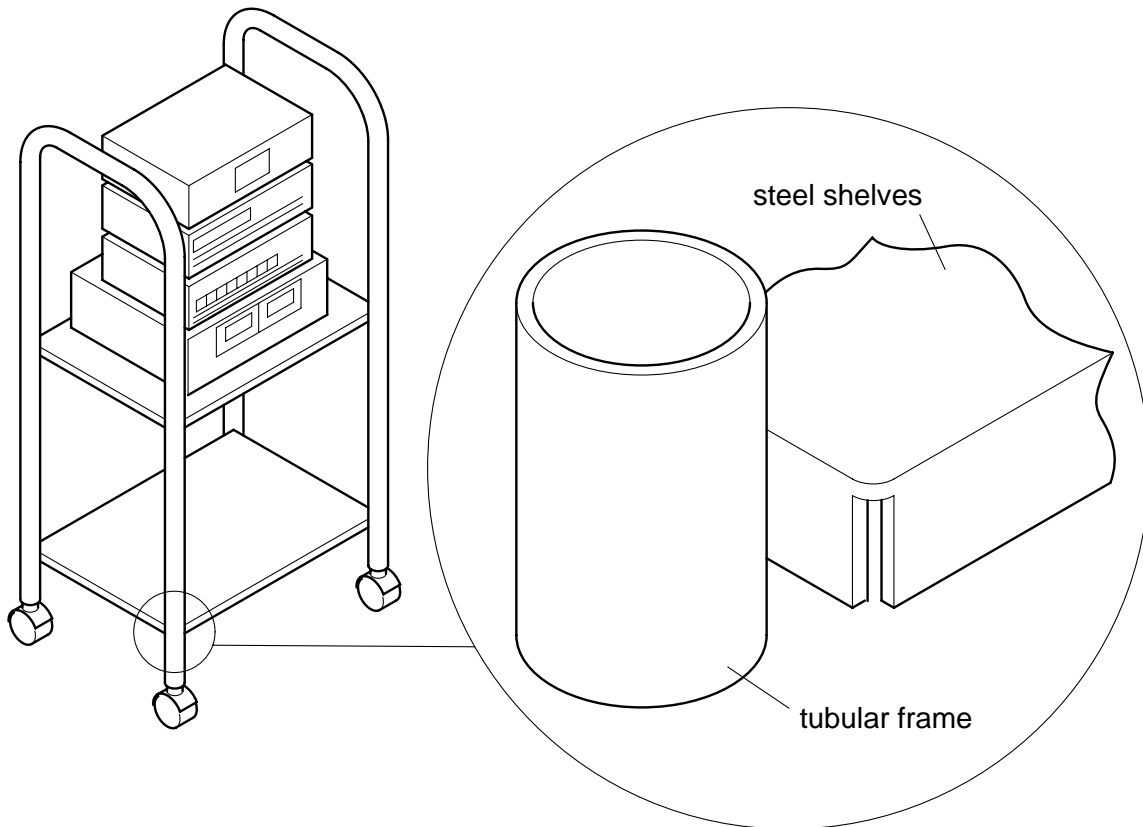

Fig. 4
- 4 Fig. 4 shows a hi-fi trolley. It consists of tubular frames and steel shelves which are designed for easy home assembly.